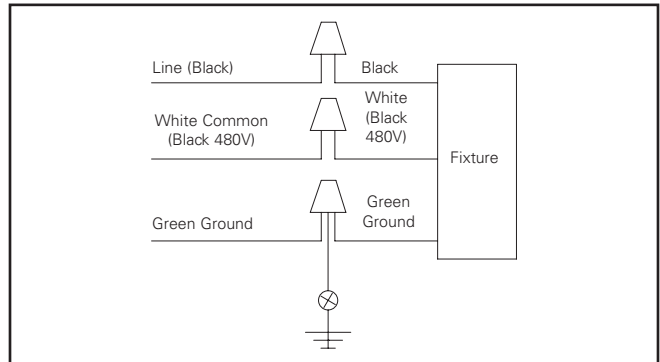

Figure 4.
4. Make wire connections inside the mounting arm. Refer to wire diagram for power connections. Connect the supply wires to appropriate luminaire leads: (Figure 4)
1. Determine wire connection method whether inside the mast arm or inside a separate junction box. Lead wires are provided exiting the mast arm for connections. Refer to wire diagram for power connections. Connect the supply wires to appropriate luminaire leads as shown in (Figure 4).
3. Secure the mast arm to the mounting arm with the (4) 3/8-16 x 3/8" set screws. Level the fixture while tightening the set screws and torque to 168 in-lbs. Tighten the (2) 1/2-13 set screws and jam nuts. Torque to 240 in-lbs.
3. Ensure the fixture is aligned for your environment and secure the mast arm fixture to the customer mast arm with the (4) 3/8-16 x 3/8" set screws. Tighten set screws to 14 ft-lbs.